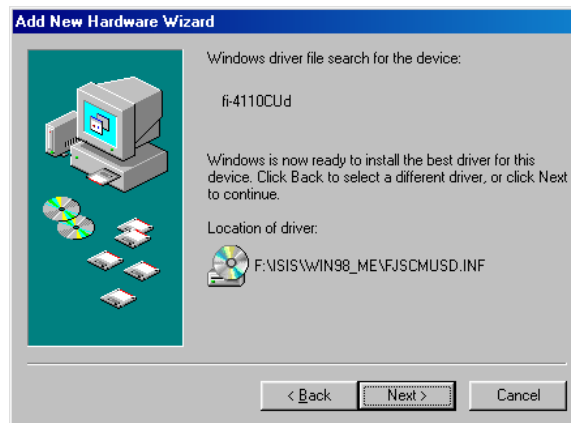

Figure 4. Windows Confirms the Location of the Driver
- 8 Click **Next** to confirm that the correct driver has been found, as shown in Figure 4.